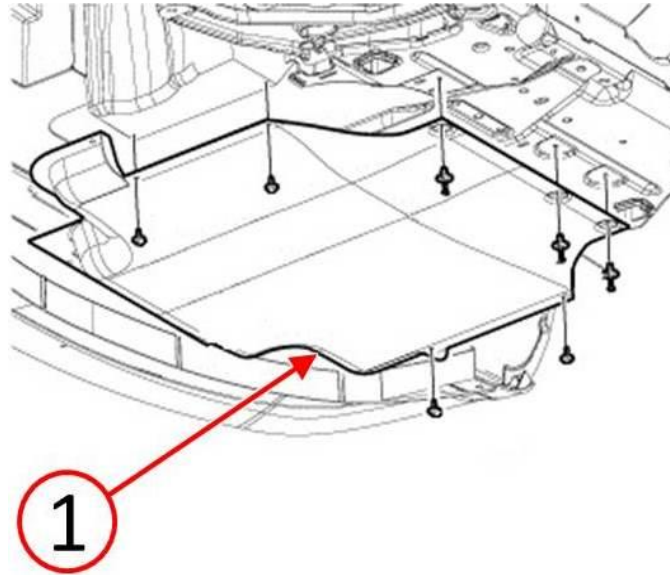

Fig. 1 Belly Pan Removal
2. Remove the belly pan (Fig. 1).